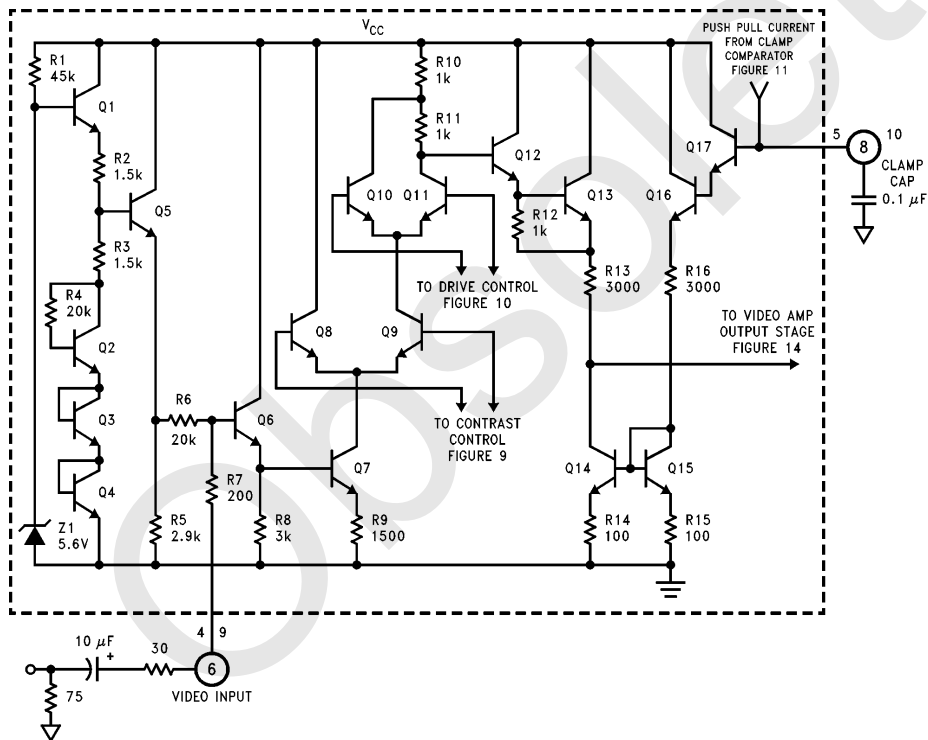
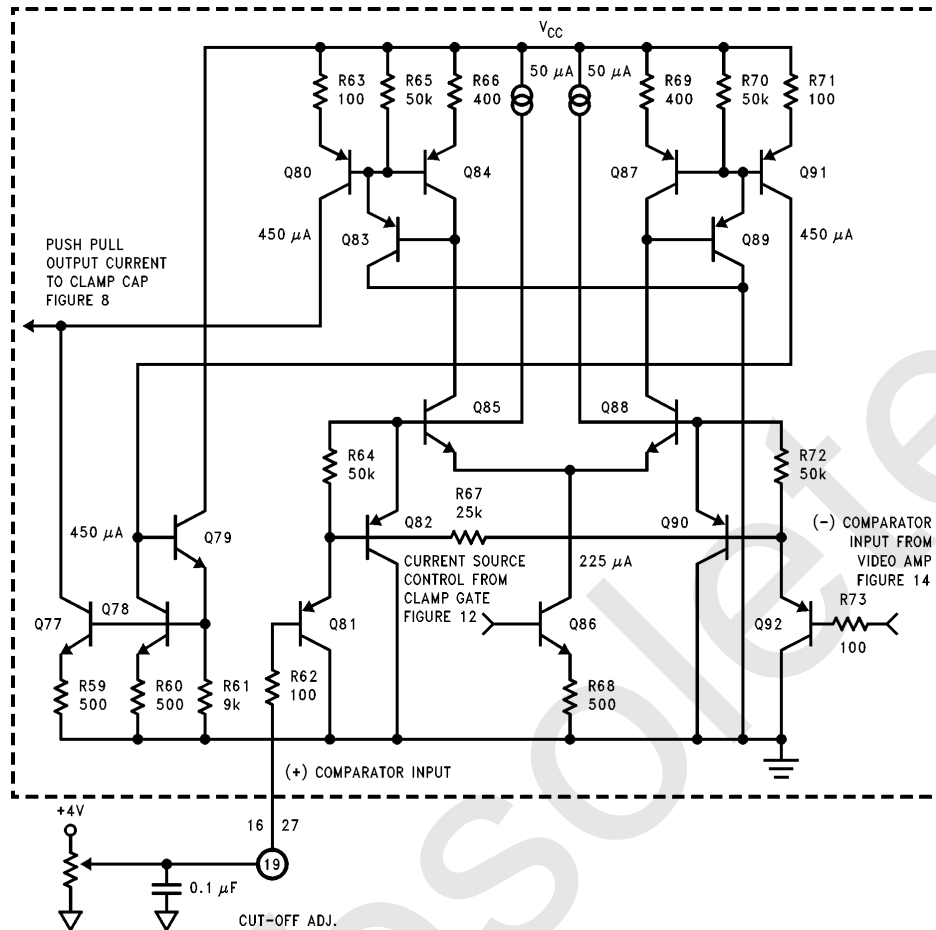
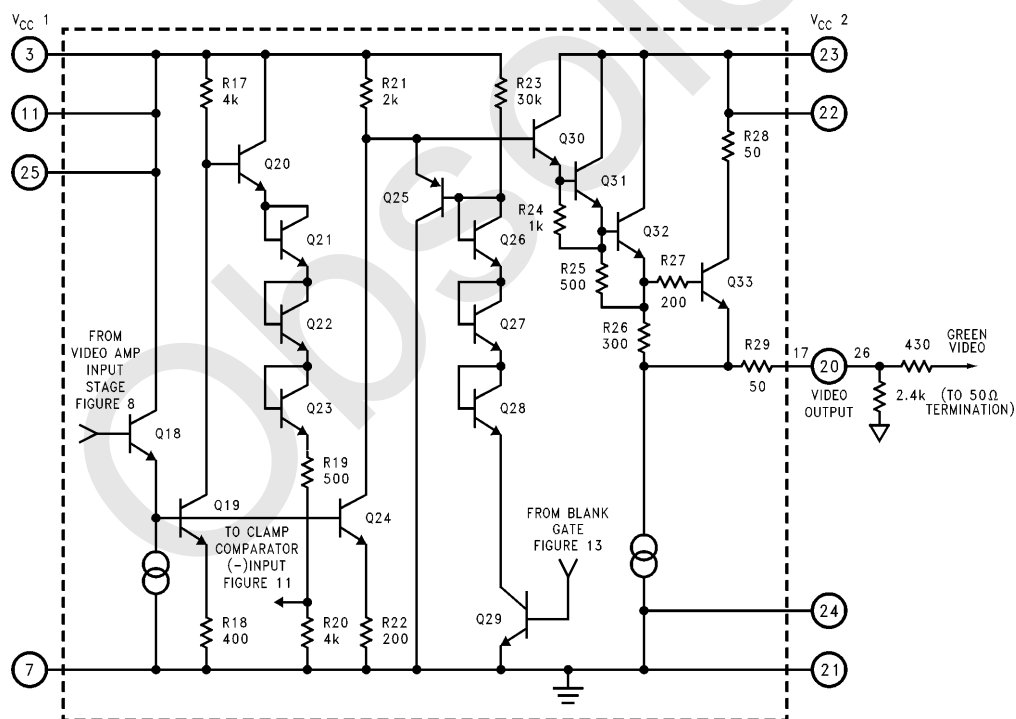

FIGURE 8. Simplified Schematic of LM1205/LM1207 Video Amplifier Input Stage
FIGURE 11. Simplified Schematic of LM1205/LM1207 Clamp Comparator Circuit
FIGURE 14. Simplified Schematic of LM1205/LM1207 Video Amplifier Output Stage with Blank Circuit
Figure 8 is a simplified schematic of one of the three video amplifiers input stage along with the recommended external components. The IC pin numbers are circled and all external components are shown outside the dashed line. The video
cuits. Each channel has its own drive control circuit. Increasing the voltage to the base of Q11 increases the video gain (drive) of the LM1205/LM1207. R10 and R11 are of the same value, but R10 is common to both Q10 and Q11. If all the current is flowing through Q10, the video amplitude would only be half of the maximum gain (all current flowing through Q11). This gives the drive control a total gain adjustment range of 6 dB. Since the drive control is only used to balance the color of each channel a small adjustment range is desirable. Q12 through Q17 are part of the final section shown in Figure 8. DC restoration is done at this stage. The clamp comparator (Figure 11) drives the clamp cap at pin 8 to a voltage that sets the correct black level of the video signal. This cap is also connected to the base of Q17. Q17 and Q16 are one half of the darlington differential pair. The clamp cap voltage establishes the current flow through R16, Q15, and R15. With the bases of Q14 and Q15 held to the same voltage the current through Q15 is mirrored into Q14 and the other half of the differential pair, Q12 and Q13. By this current mirror the voltage at the collector of Q14 is set to the correct DC value for the video signal by controlling the voltage drop across R13, completing the DC restoration.
Pin 1 of the contrast control output is held at a constant voltage two diode drops below  $\frac{1}{2}V_{CC}$ . To generate this reference the base of Q51 is held at exactly  $\frac{1}{2}V_{CC}$ . R44 and R45 form a voltage divider. With both Q53 and Q54 connected as diodes the voltage at the junction of R44 and R45 is  $\frac{1}{2}V_{CC}$  plus one diode drop. Q52 is a buffer to this reference voltage, generating exactly  $\frac{1}{2}V_{CC}$  at its emitter. Q51 is used to drive the bases of Q49 and Q50 to one diode drop below the reference voltage. Q50 is used to further buffer the reference voltage to the base of Q9 (see *Figure 8*) and the corresponding transistors in the other channels. Q48 is used to bias the collector of Q49 to  $\frac{1}{2}V_{CC}$ , the same voltage as the collector of Q47 when the differential pair is balanced. This keeps the characteristics of Q47 and Q49 well matched. Going back to Q44 and R33; these parts set up a current source that varies the current through R36. With a 2V contrast voltage the differential pair is balanced, meaning that the voltage drop across R36 is  $\frac{1}{2}V_{CC}$ . Q45 buffers the voltage at R36, driving the bases of Q46 and Q47. Q46 further buffers the voltage, driving the base of Q8 (see *Figure 8*) and the corresponding transistors in the other two
channels. In the balanced condition the voltage at pin 2 will also be two diode drops below  $\frac{1}{2}V_{CC}$ , giving a well balanced drive to the differential pair consisting of Q8 and Q9 in the video amplifier input stage. With the contrast voltage set to 0V, the voltage at pin 2 will increase by about 400 mV to 500 mV. A 4V contrast voltage decreases the voltage at pin 2 by about 400 mV to 500 mV from the balanced condition. Reviewing *Figure 8* note that decreasing the voltage at pin 2 will decrease the current flow through Q8. Thus the current flow through Q9 increases, increasing the gain of the LM1205/LM1207. So increasing the contrast control voltage at pin 12 increases the gain of the LM1205/LM1207. The contrast control voltage from Q46 and Q50 is common to all three channels. To minimize crosstalk it is necessary to add a decoupling capacitor of 0.1  $\mu$ F across R37 and R40. Since this can only be done externally, these two nodes are brought out to pins 1 and 2. The 30 $\Omega$  resistor is added in series with the capacitor for improving stability. To prevent a destructive current surge due to shorting either pins 1 or 2 to ground R38 was added for current limiting.
Figure 11 is a simplified schematic of the clamp comparator circuit. Q85 and its input transistors, Q81 and Q82 are one half of the differential pair. The base of Q81 is connected to pin 19 via R62. This is the positive input to the comparator. Q88 and its input transistors, Q90 and Q91 are the other half of the differential pair. The base of Q92 is connected to the junction of R19 and R20 in Figure 14 via R73. This is the negative input to the comparator. R73 is included only to match the input characteristics of the positive input, which requires the 100Ω resistor. The negative comparator input is the feedback from the output stage as briefly described in the block diagram and covered in more detail in the output stage circuit description. Q86 is the current source for the differential pair. It is turned on and off by the output of the clamp gate circuit (Figure 12). Q102 of the clamp gate circuit has a current flow of about 225 μA when it is turned on. This current is mirrored into Q86. Assume that the inputs to the comparator are equal, making the differential pair balanced. In this condition Q85 and Q88 each have a current flow of 113 μA. Looking at the Q85 side of the circuit, Q84 will also have 113 μA of current flow. Q80 is set up as a current mirror to Q84, but its emitter resistor is one fourth the emitter resistance of Q84. Thus the current flow for Q80 is four times the current flow thru Q84, or 450 μA. Q83 has been added to help drive the base of Q80, increasing the accuracy of the current mirror. The collector of Q80 directly charges the capacitor as a current source of 450 μA. R65 is added to discharge the charge stored in the bases of Q80 and Q84. This is necessary to quickly turn off the current charge of the clamp capacitor as the comparator section is turned off. Q87, Q89, and Q90 work in exactly the same way. However, the collector of Q91 drives another current mirror with the 450 μA. This current flows thru Q78. Q77 is a current mirror with Q78, thus 450 μA also flows thru Q77. Q79 has been added to help drive the base of Q77, again adding to the accuracy of the current mirror. Since Q77 is on the ground side of the circuit it discharges the clamp
*Figure 13* is a simplified schematic of the Blank Gate circuit. With the exception of the simple output stage and the spot killer circuit, this circuit is almost identical to the clamp gate circuit. The only difference is that the output stage is driven from the opposite side of the differential pair. Thus Q111 is connected as a diode instead of Q109. With the input at pin 13 at a low level Q108 is turned on, also turning on Q29, the output transistor. Q29 is part of the blanking circuit in the output stage shown in *Figure 14*. When Q29 is turned on the output is clamped to a blanking level that is “blacker than black”, allowing blanking to be done on the cathodes of the CRT
*Figure 14* is a simplified schematic of the Video Amplifier Output Stage including the blanking circuit. Q18 serves as a buffer between the DC restoration stage shown in *Figure 8* and the output stage. A current source is used to fix the current flow thru Q18 keeping it well within its operating range. The emitter of Q18 drives the bases of Q19 and Q24, with the current thru Q24 being twice that of Q19. Q19, along with Q20 thru Q23 duplicate the actual output stage going to pin 20. Q19 inverts the video signal (note that the video signal was inverted at Q7 in *Figure 8*). With two internal inversions of the video signal in the LM1205/LM1207, the output is non-inverted. The collector of Q19 gives a gain of  $-10$  to the video signal and drives the base of Q20. Q21 through Q23 are all connected as diodes with the emitter of Q23 driving R19 and R20. The junction of R19 and R20 is connected to the base of Q92 via R73 (shown in *Figure 11*), this being the feedback to the negative input of the clamp comparator. This stage is independent of the actual output stage at pin 20, but is where the feedback is done for DC restoration. Therefore it is possible to blank the actual output stage below the black level without affecting the DC restoration feedback loop. Q24 is the equivalent part of Q19 in the actual output stage. It also inverts the video signal with a gain of  $-10$  and drives the base of Q30. Q30 thru Q32 each give a diode drop to the level of the video signal, similar to being connected as diodes. Being connected as
Figure 14 also shows the power and ground pins to the LM1205/LM1207. All the  $V_{CC1}$  pins (pins 3, 11, 25) are all internally connected together. A 0.1  $\mu\text{F}$  bypass capacitor must be located close to each pin and connected to ground. Further bypassing is done by a 100  $\mu\text{F}$  capacitor. This capacitor needs to be located on the board close to the LM1205/LM1207. Pins 22 and 23 are the  $V_{CC2}$  pins. A 10  $\mu\text{F}$  and a 0.1  $\mu\text{F}$  bypass capacitors must be located close to pins 22 and 23. Correct bypassing of pins 22 and 23 is **very important**. If the bypassing is not adequate then the outputs of the LM1205/LM1207 will have ringing, or even worse they may oscillate. The ground side of the bypass capacitors at pins 22 and 23 must be returned to a ground plane with no interruptions from other traces between these capacitors and the ground pins 21 and 24 of the LM1205/LM1207.